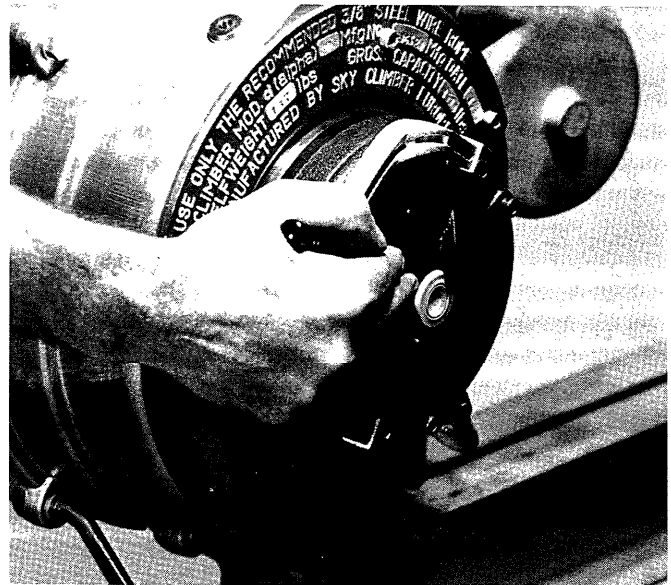

Figure 3.3
- Release Hoist brake by gently pulling Controlled Lowering Lever. See 3.2.3. See Figure 3.3.